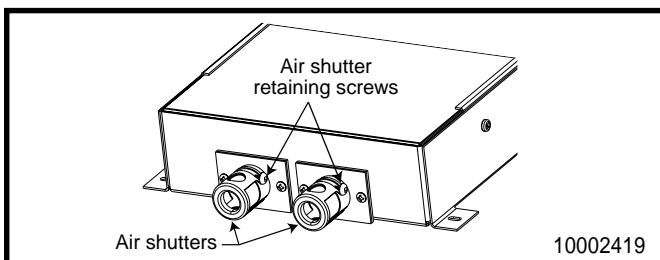

Fig. 47 Air shutter adjustment
7. Remove the screws holding the air shutter to the burner tubes (Fig. 47). Note the alignment of the air shutter on the tubes. Remove the air caps and replace them with the new air shutters supplied in the conversion kit.